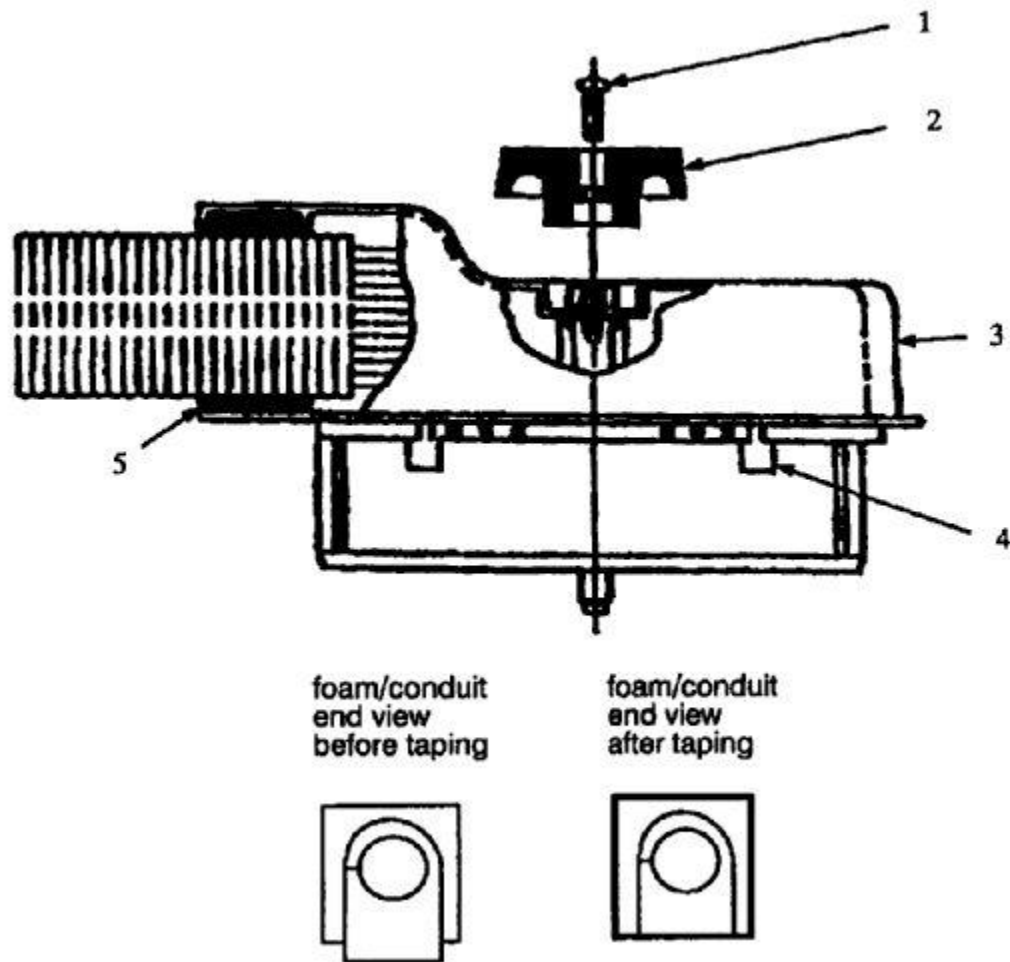

Figure 1.
5. Remove the wire dress cover (Item 3, Figure 1) by prying the four tabs and gently pulling the cover from the connector body.